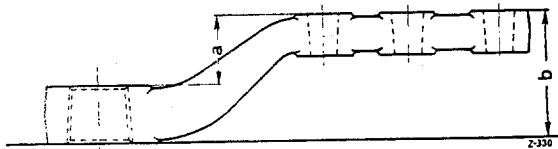

Fig. L 12/1
3. Check the steering gear arm for distortion (Fig. L 12/1).